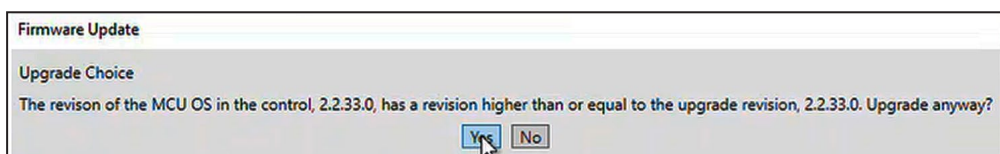

Figure 21. The MCU OS revision dialog box.
STEP 9. In the Firmware Update dialog box, click on the **Yes** button. See Figure 21. Selecting “No” will end the **Update** process.